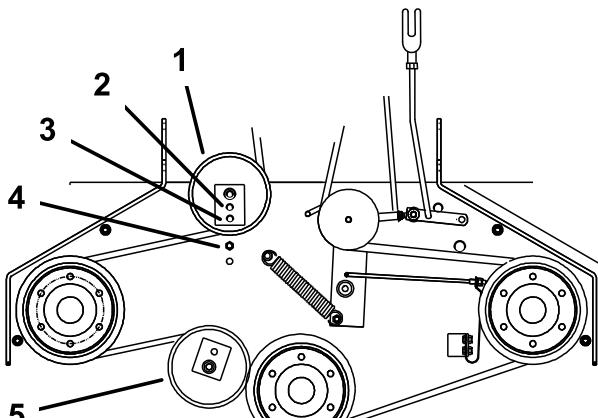

Figure 45
- If there is no adjustment left in the turnbuckle and the belt is still loose, position the rear idler pulley in the middle or front hole (Figure 45). Use the hole that will give the correct adjustment.
- When the idler pulley is moved the belt guide must be moved. Move the belt guide to the front position (Figure 45).